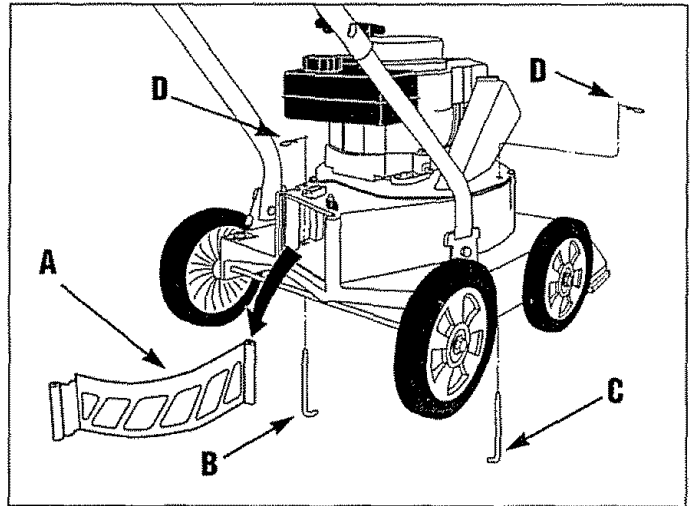

Figure 13: Shredder screen removal.
1. The screen (A) is held in place by two long rods (B and C) and hair pin clips (D) (see Figure 13).
2. To remove the rear rod (B), remove the collection bag (if installed). Then, remove the hair pin clip and pull the rod out through the bottom of the deck.
3. Use sturdy supports to prop up the right side of the machine a few inches. Then, remove the hair pin clip and pull the rod (C) out through the bottom of the deck.